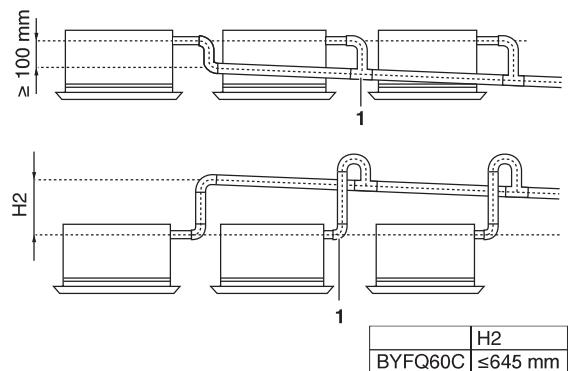

Fig. 20
**NOTE** The incline of attached drain hose should be 75 mm or less so that the drain socket does not have to withstand additional force. To ensure a downward slope of 1:100, install hanging bars every 1 to 1.5 m. When unifying multiple drain pipes, install the pipes as shown in **Fig. 20**. Select converging drain pipes whose gauge is suitable for the operating capacity of the unit.